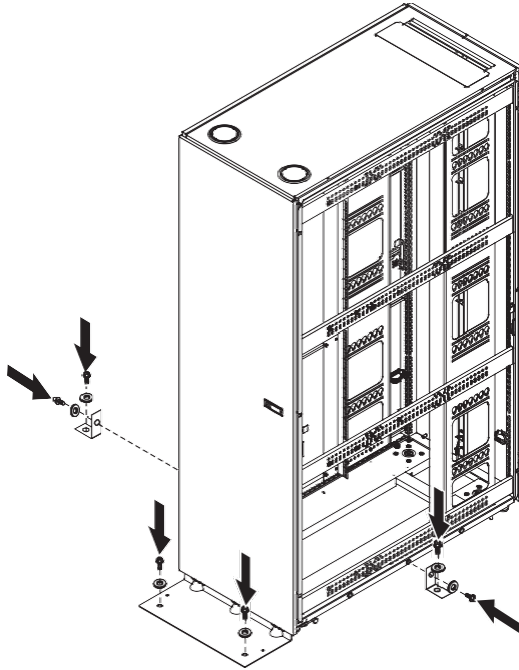

Figure 7. Installing the side stabilizer brackets and bolting the rack to the floor surface
- d. Attach the side stabilizer brackets to the center cage nut on each side of the rack with the hex bolts and washers (see Figure 7). The stabilizer brackets, bolts, and washers come in the hardware kit.
4. Bolt the rack to the floor surface through the holes in the front stabilizer and the side stabilizer brackets (see Figure 7) and reinstall the side covers.